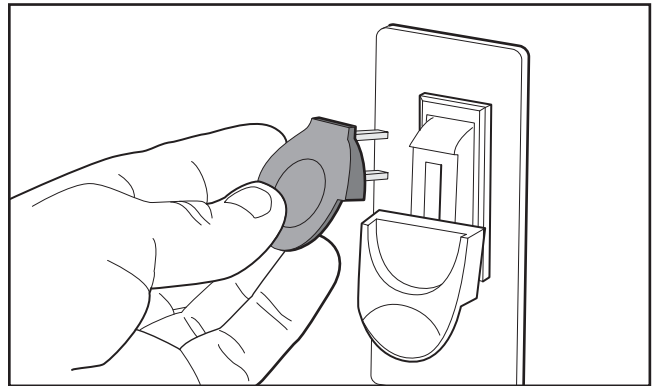

Figure 10. Removing switch key from paddle switch.
4. Remove switch disabling key, as shown in **Figure 10**.